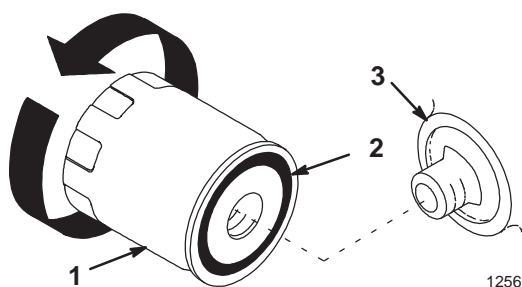

Figure 17
10. Change the oil filter, if necessary (Fig. 17).
2. Remove the old oil filter and wipe the filter adapter (Fig. 17) gasket surface.
3. Apply a thin coat of new oil to the rubber gasket on the new oil filter (Fig. 17).
5. Turn the oil filter clockwise until the rubber gasket contacts the filter adapter, then tighten the oil filter an additional 1/2 to 3/4 turn (Fig. 17).